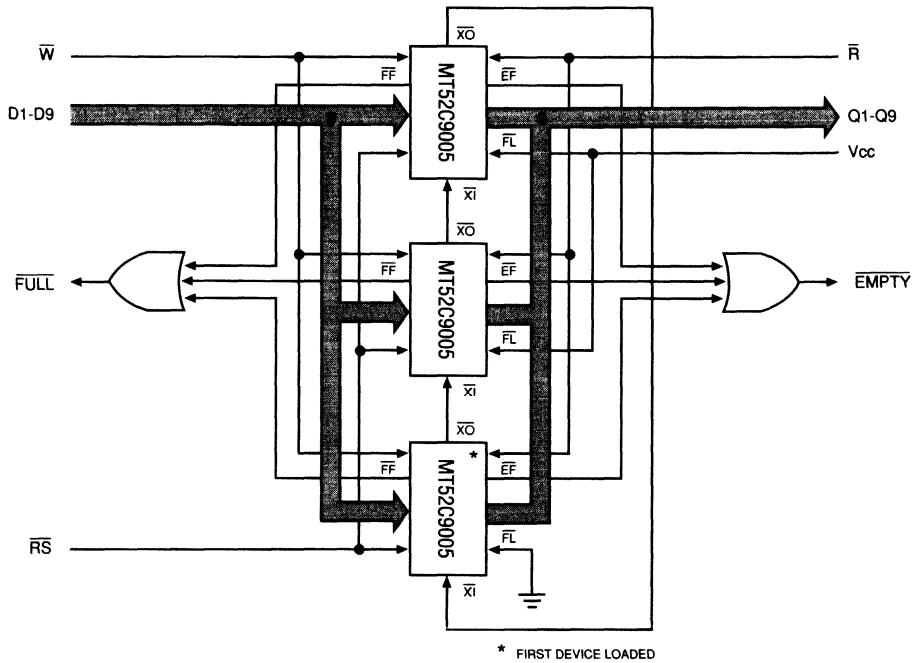

Figure 1
The FIFO word width can be expanded, in increments of 9 bits, using either the STAND ALONE or groups of EXPANDED DEPTH mode FIFOs. Expanded width operation is achieved by tying devices together with all control lines (\bar{W} , \bar{R} , etc.) in common. The flags are monitored from one device or one expanded-depth group (Figure 1) when expanding depth and width.
Multiple MT52C9005s may be cascaded to expand the depth of the FIFO buffer. Three pins are used to expand the memory depth, \bar{X}_1 , \bar{X}_0 /(HF) and \bar{F}_L /(RT). Figure 1 illustrates a typical three-device expansion. The DEPTH EXPANSION mode is entered during a RESET cycle, by tying the \bar{X}_0 /(HF) pin of each device to the \bar{X}_1 pin of the next device in the chain. The first device to be loaded will have its \bar{F}_L /(RT) pin grounded. The remaining devices in the chain will have \bar{F}_L /(RT) tied HIGH. During RESET cycle, \bar{X}_0 /(HF) of each device is held HIGH, disabling reads and